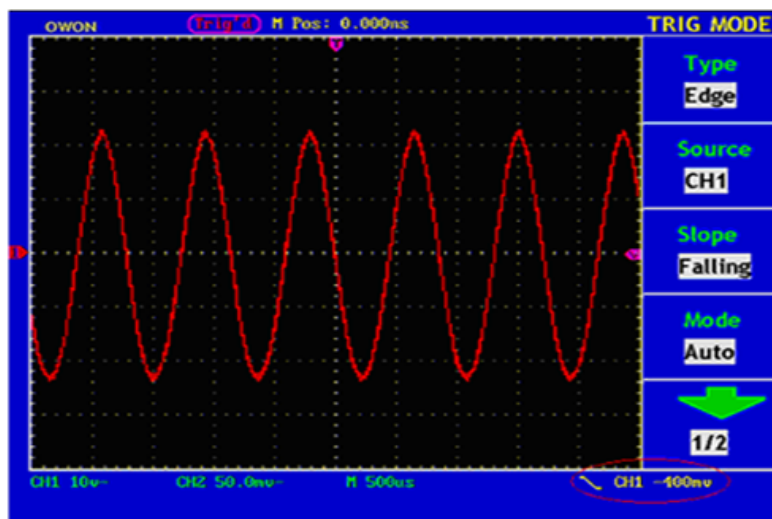

Fig.32 Waveform when Triggered on Falling Edge
10. Press **F3** next to Slope to choose Falling option, see Fig.32.